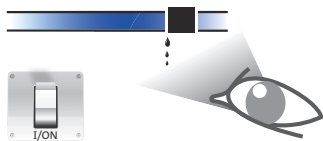

Fig. 30 Inspect for leaks after operation
12. Check that all hot-water connections are tight and not leaking, when the hot water has been run for several minutes. See fig. 30.